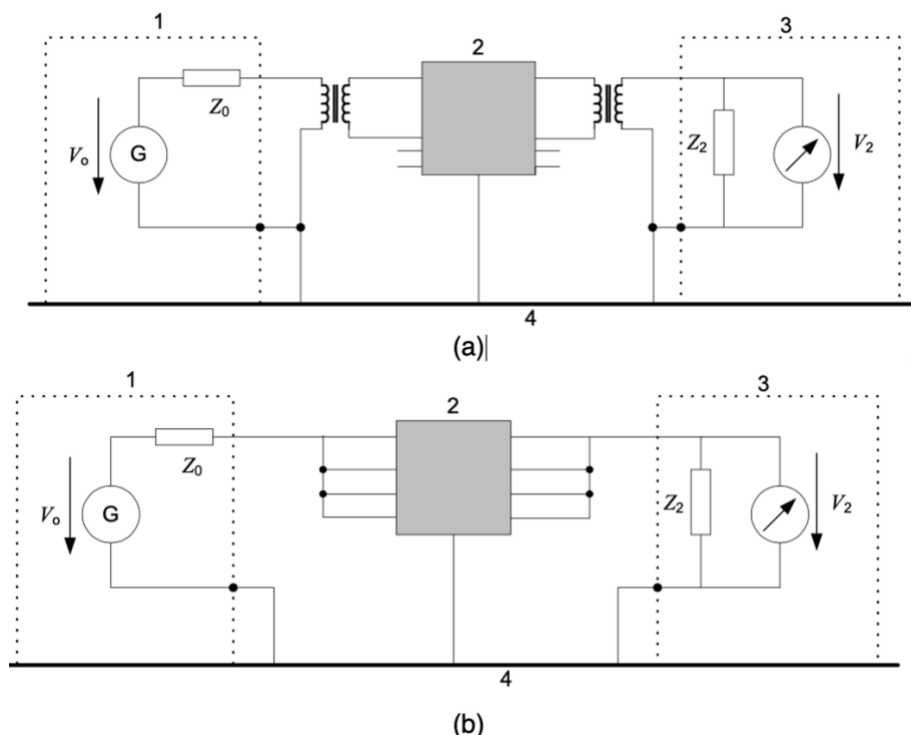

Figure 1 Test set-up for insertion loss, CISPR 17 (a) symmetrical test, (b) asymmetrical test
Take a 50 Ω /50 Ω (source impedance/load impedance) system for instance, CISPR 17 defines two tests to measure the filter performance, which are symmetrical (differential mode) and asymmetrical (common mode). The test set-ups are shown in Figure 1. The signal generator (G) performs a signal sweep between the defined frequency range. The voltage across the load (Z_2) is measured during the sweep.